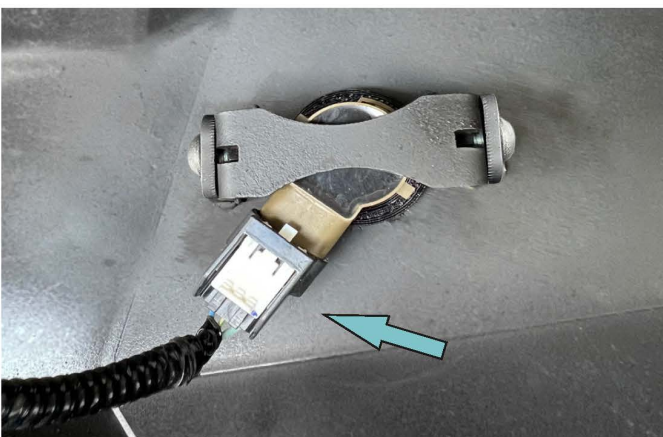

Fig. 29
28. Connect OE parking sensors and LED lights with OE wiring. Cut electrical tape and adjust length of the wiring. Fix wire using cable clips and cable tie (item K,N) (Fig. 29,30).